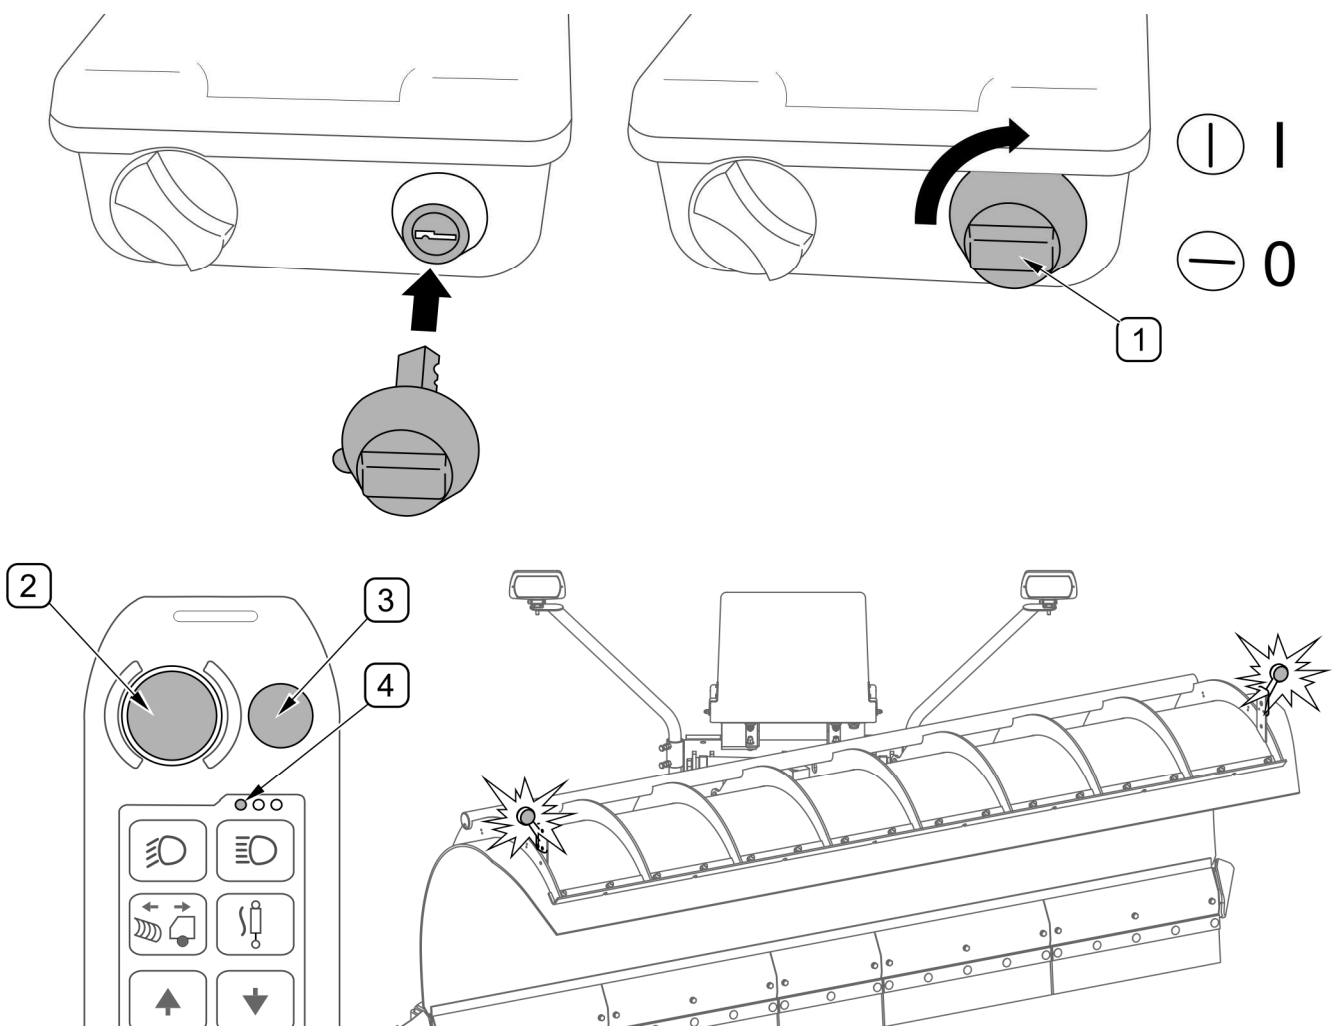

FIG. 2. Switching the transmitter on
Before switching the transmitter on, make sure that emergency STOP push-button (2) is not pressed (FIG. 2). Otherwise, pull push-button (2). Turn key (1) 90° clockwise and press START push-button (3). Start of the transmitter is indicated by blinking signalling diode (4) (green, red or yellow diode - depending on charging condition of batteries) (see 9.1 INDICATOR OF CHARGING CONDITION OF THE TRANSMITTER'S BATTERIES)
If emergency STOP push-button (2) is pressed, the transmitter's power supply is switched off or radio communication is lost, the snow plough's clearance lights are switched off. In order to reactivate the control system, press START push-button (3) (FIG. 2).
In order to switch the control system on, press START push-button (3) twice FIG. 2)